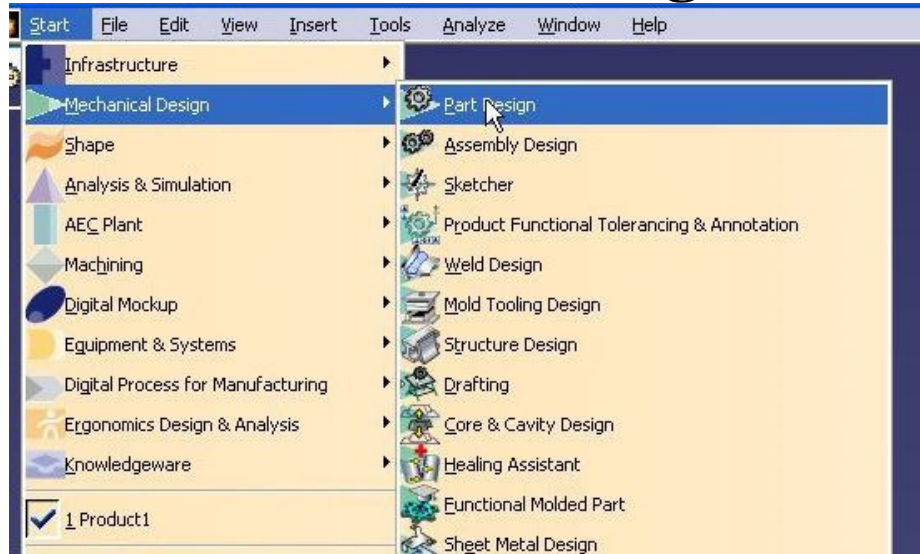

Fig.1. Menu bar
1. Select Start -> Mechanical Design -> Part Design from the menu bar (Fig. 1).